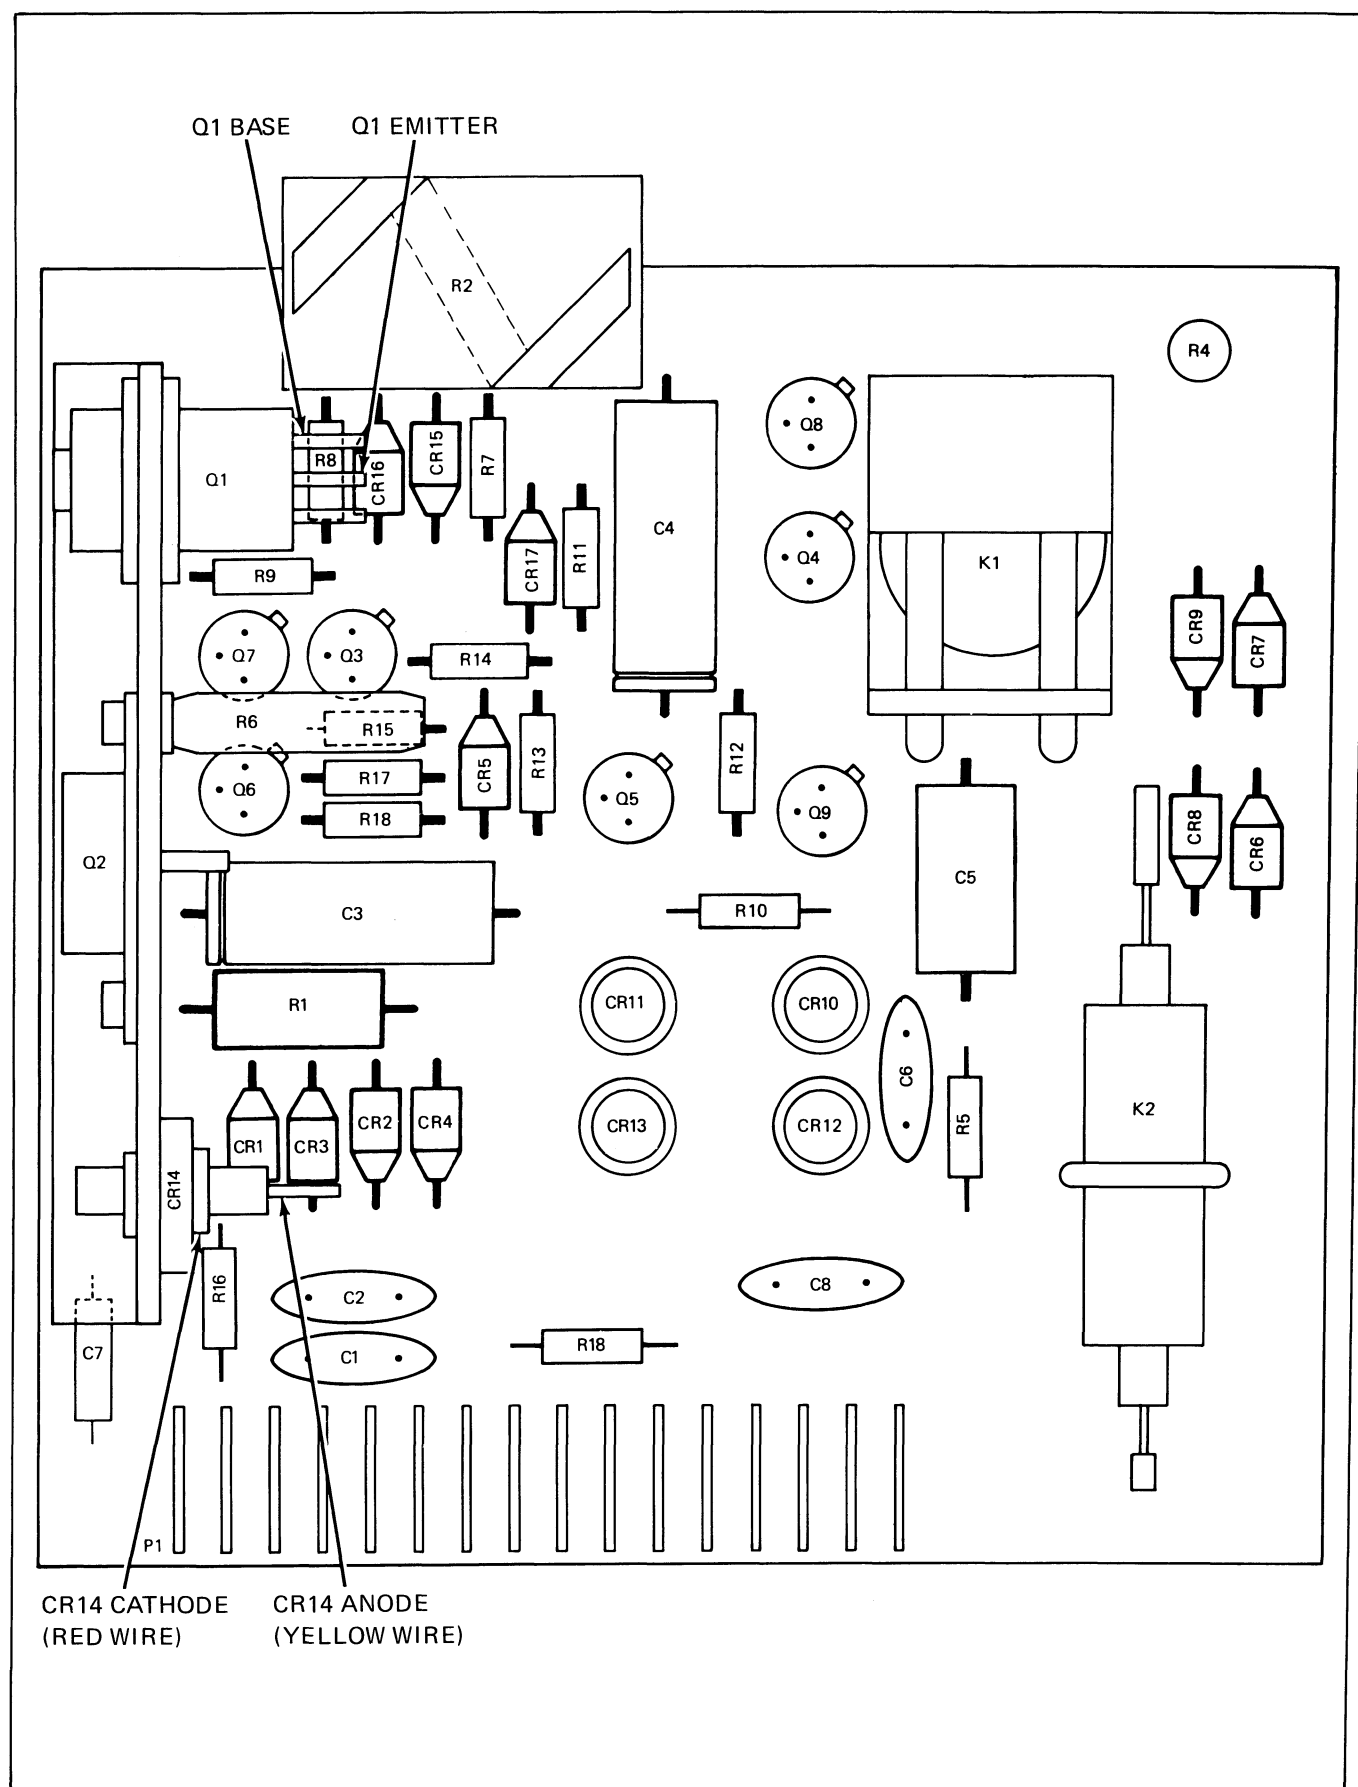

Figure 4-19. Pre-Regulator Test Points
5. Connect the oscilloscope common to the emitter of Q1 and connect the input to the base (refer to Figure 4-19). Set the vertical input to dc, sweep speed to 1 millisecond/cm and the vertical sensitivity to 0.5 volt/cm.
20. Using an X10 probe, connect the oscilloscope across the 50 watt zener diode on the Pre-Regulator Assembly (see Figure 4-19). Connect the probe to the cathode and probe common to the anode. Set oscilloscope sensitivity to 50V/cm and sweep speed to 2 ms/cm.